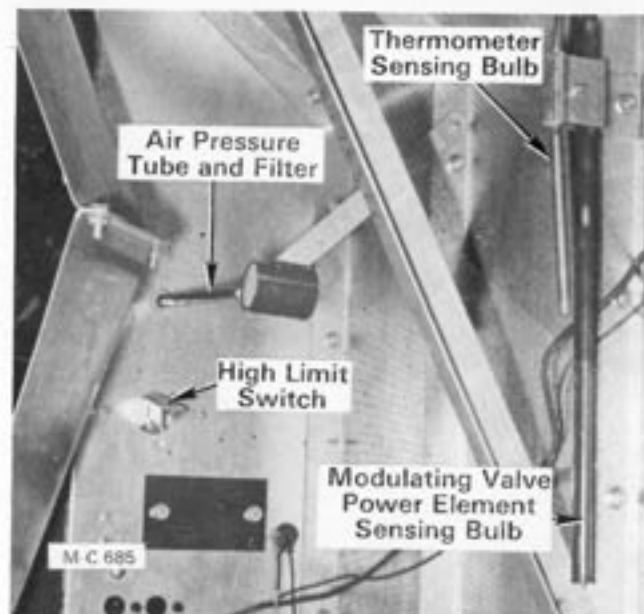
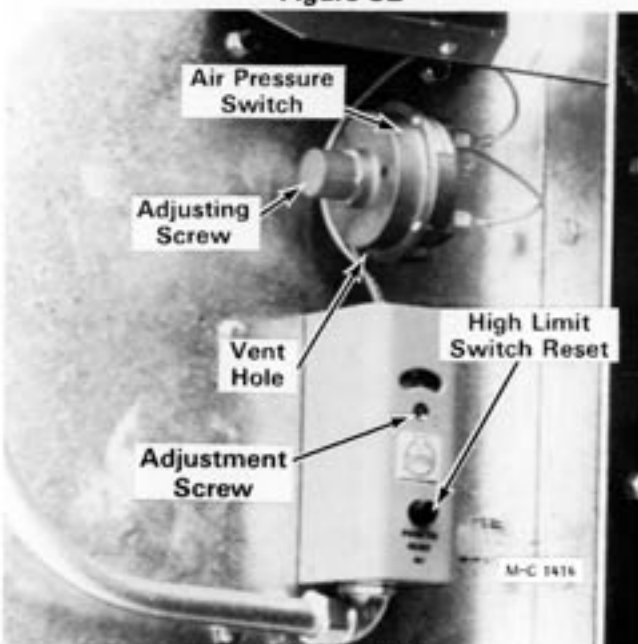

Figure 32
Figure 32A
5. Turn on the electric power supply to the dryer. Flip the control circuit toggle switch ON. The control circuit ON light and high limit lights will be on. If any high limit light is not on, push the reset button on the high limit switch, see Figure 32A.
6. Remove the air pressure switches and clean the tube and filter, see Figure 32. Be sure the vent hole in the bottom of the air pressure switch body is open, see Figure 32A.
4. Disconnect the two wires at the back of each air pressure switch (there is one for each burner), see Figure 32A. Connect the two wires together with a short jumper wire. Do not allow the jumper wire to come in contact with any metal. This will by-pass the air pressure switch.